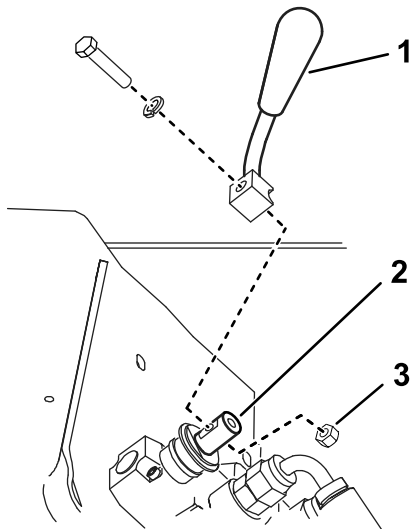

Figure 4
2. Secure the lever to the speed-selector valve using the bolt, lock washer, and nut as illustrated in Figure 4.